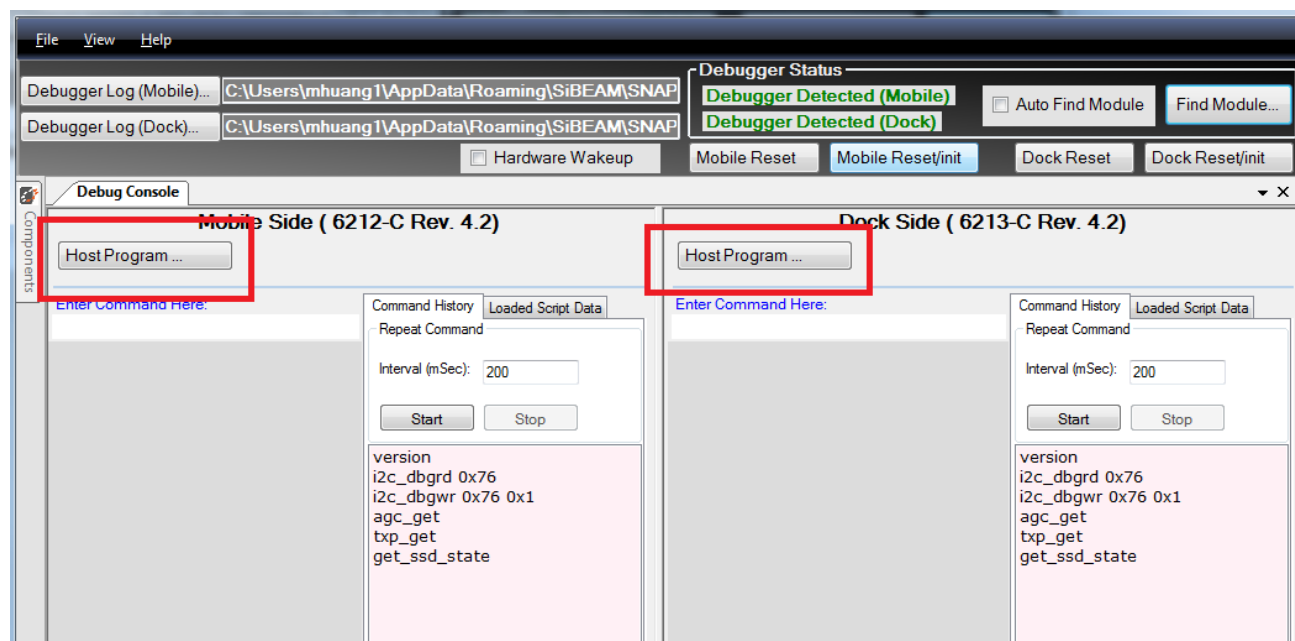

Figure 2.8. Snap Tool – Host Program Button
3. Click the **Host Program...** button from the Debug Console page, as shown in Figure 2.8.